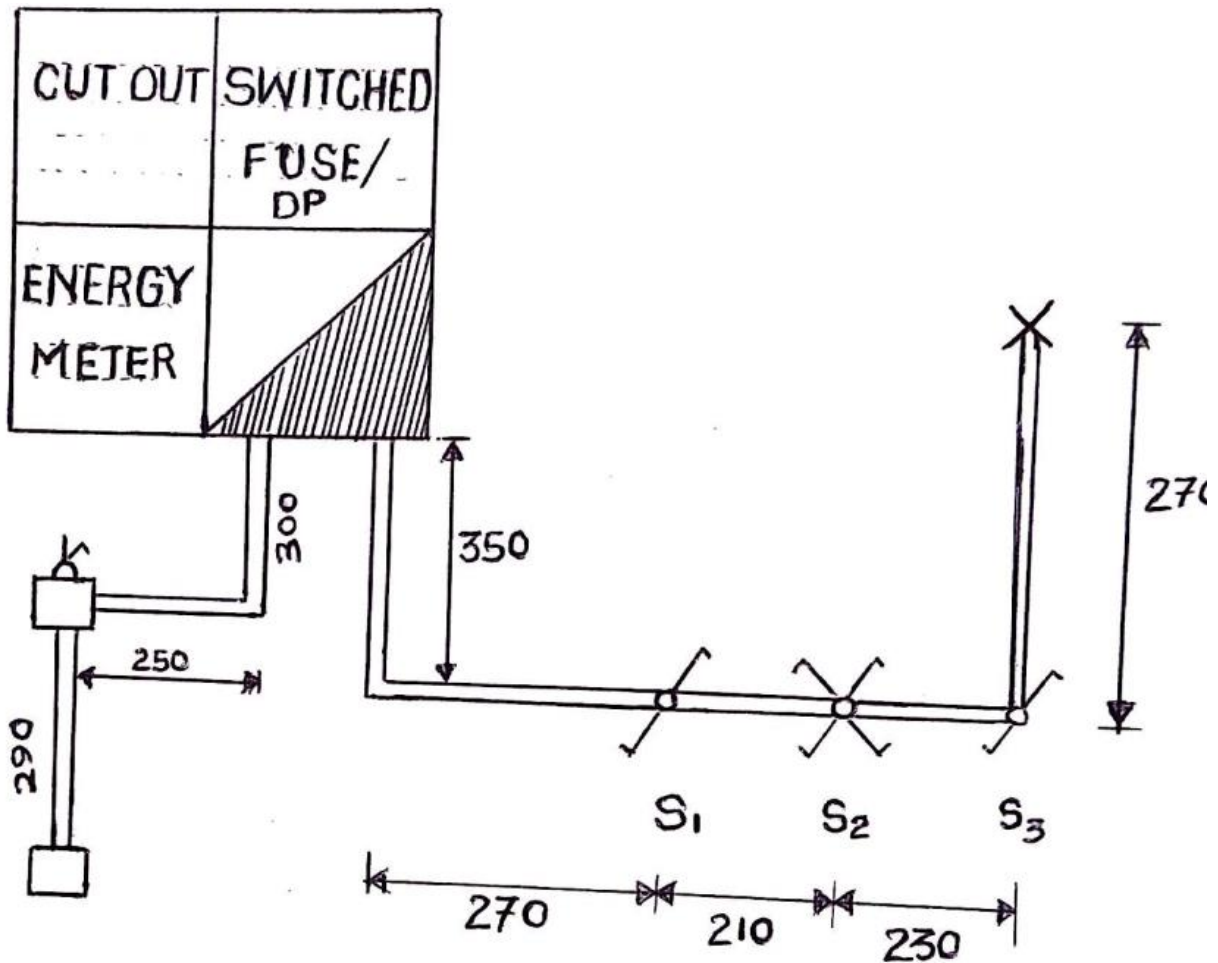

Figure 1
2. Figure 1 shows a layout diagram of the final sub-circuit. Draw a wiring diagram such that switches S1, S2, and S3 control lamp Q independently